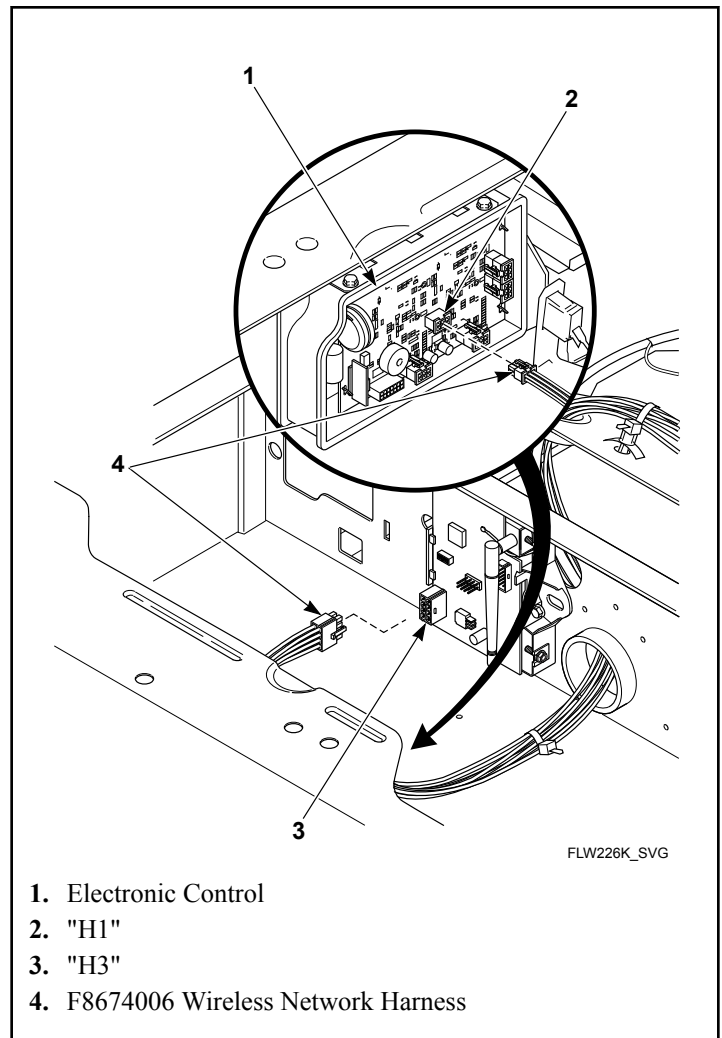
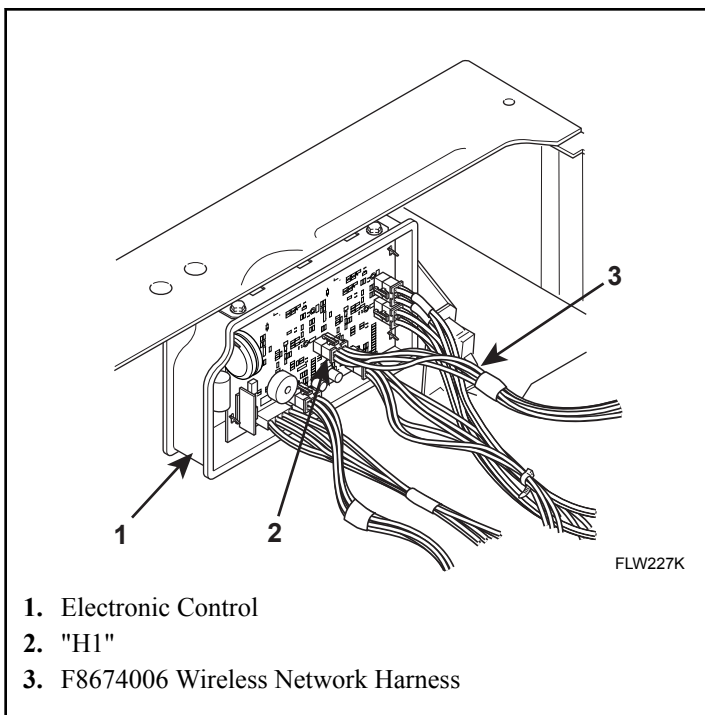

Figure 6
Figure 7
4. Install the F8674006 Wireless Network Harness between the network board "H3" refer to *Figure 6* , and the electronic control "H1". Refer to *Figure 7* .